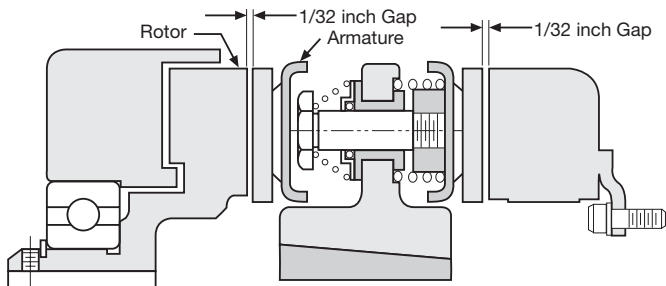

Figure 15
2. Adjust the rotor's position on the shaft to allow approximately $1/32''$ between the faces of the rotor and armature. Secure the rotor in this position by alternately tightening the two locking screws. Once this $1/32''$ gap is set, it will be automatically maintained throughout the life of the unit. (Figure 15)